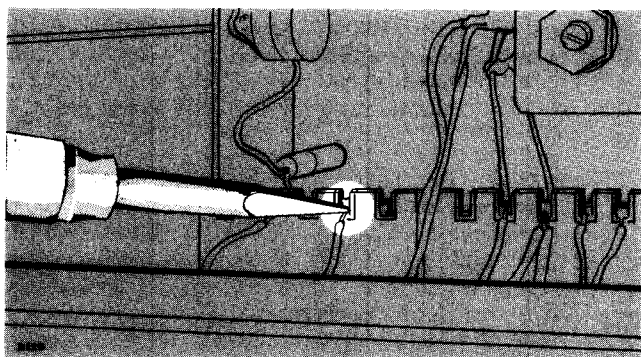

Fig. 5-4. Correct method of applying heat in soldering to a ceramic strip.
4. Apply one corner of the tip to the notch where you wish to solder (see Fig. 5-4).